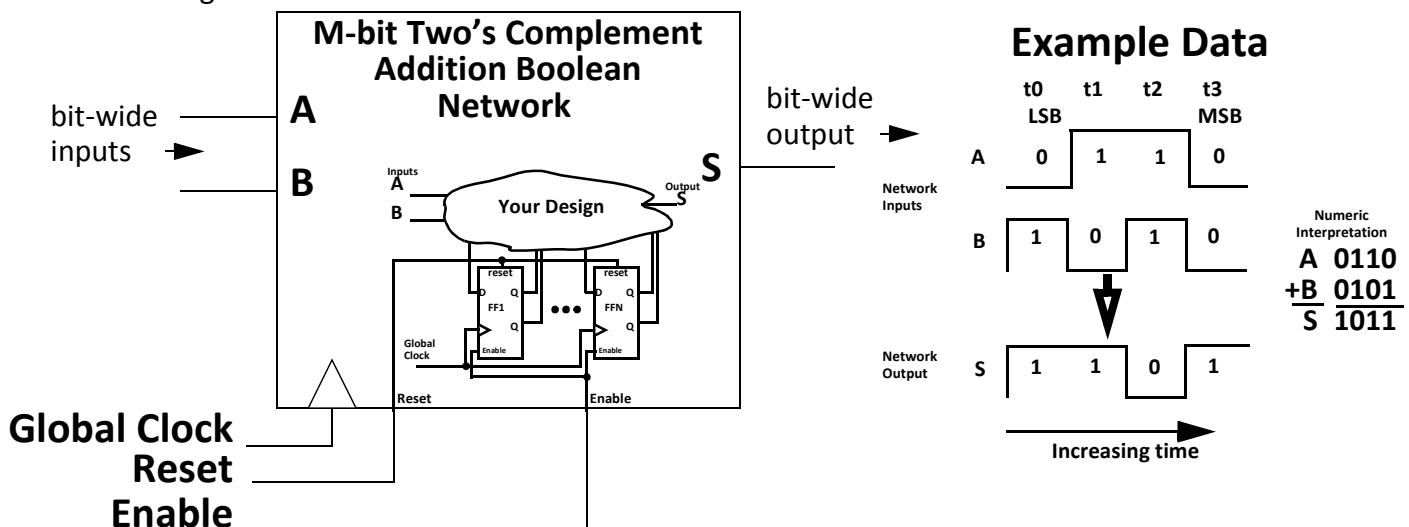

Figure 1: Functional Overview of Sequential Adder
This homework assignment focuses on the design of a sequential Boolean network whose function is to perform a two's complement addition of two arbitrary length binary numbers **A** and **B** producing as sum **S** of the same length. These two inputs are assumed to be sent-bit serially in time least significant bit first. The output **S** is also assumed to produce the sum in a bit serial manner least significant bit first (see Figure 1). The network also contains a **Reset** and **Enable** input. The **Reset** input is the means by which an external controller can put this design back into its initial state so it can be used to sum up another two numbers. The **Enable** input allows the external controller to pause your design (in effect skipping clock cycles) so that it ignores inputs that are invalid. It is the job of the controller to make sure the Boolean network has been reset when a new number is sent and the network will only input valid bits. Your job is to develop the sequential network in a manner the considers only the inputs **A**, and **B**, and the output **S**. In portions of this homework that require flip-flop state assignments assume that the initial state occurs when all of the flip-flops are zero. This would be the case when all the *reset* and *enable* signals are connected together as shown in the figure.
Develop a Mealy FSM State Graph (SG) for the Two's Complement Design shown in Figure 1. The design should contain the minimum possible number of states possible, which is 2, to implement the desired function. Identify the initial state and fully label all states in the diagram. Also label the input(s) and output of the design.
Develop a Moore State Graph, SG, for the Two's Complement Design shown in Figure 1. The design should contain the minimum possible number of states possible, which is 4, to implement the desired function. Identify the initial state and fully label all states in the diagram. Also label the input(s) and output of the design.